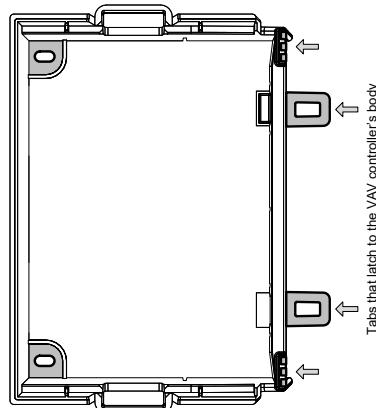

Figure 8: Terminal Cover Attachment Tabs
2. Attach the base of the terminal cover(s) to the underside of the VAV controller's body with the tabs shown in Figure 8 .